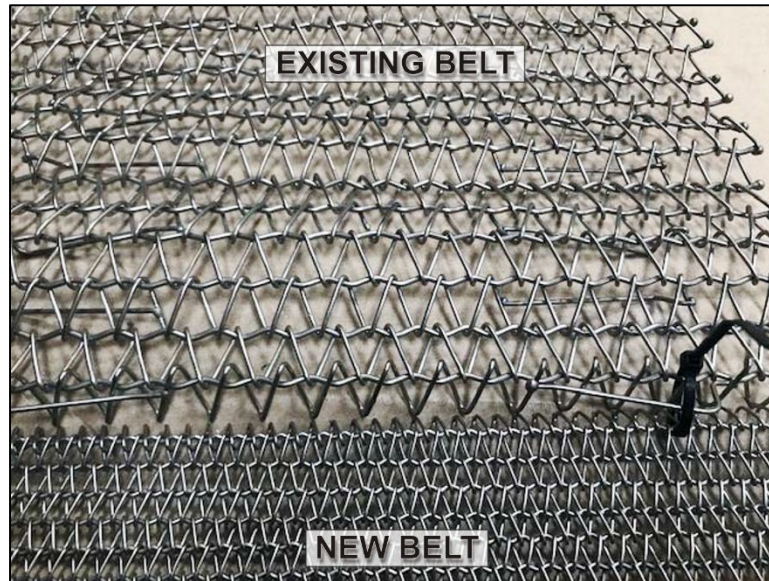
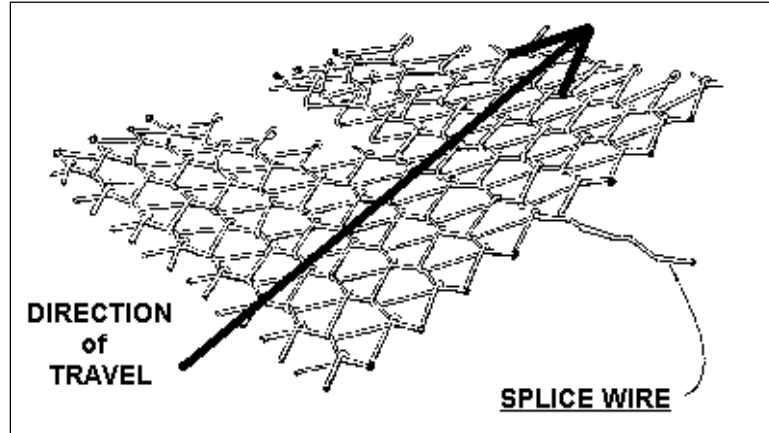

Figure 3-5 Splicing new heavy belt to existing standard belt
Figure 3-6 Belt Orientation & Direction of Travel
3.4.1 At the entrance of the furnace, use the belt splice wire (from Figure 3-4) to attach the leading edge of the new belt to the old belt. See Figure 3-5 for example of splicing belts with different weaves. See Figure 3-6 for belt orientation and direction of travel.